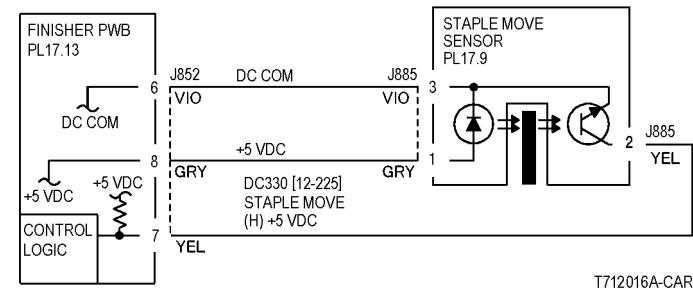
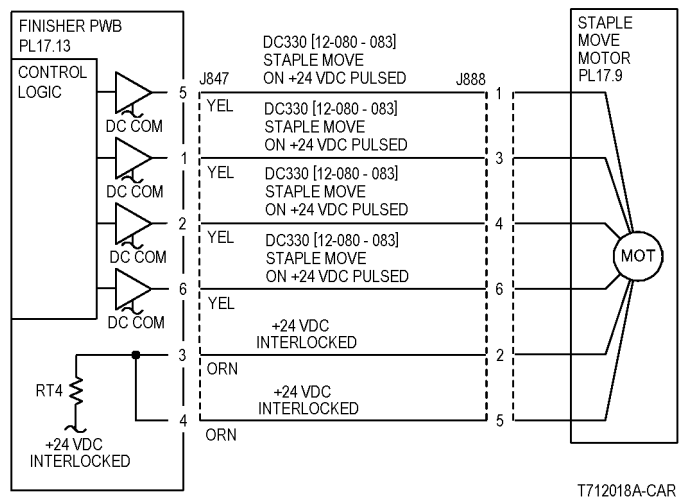

Figure 2 12-242 RAP Circuit Diagram - Staple Move Sensor
Figure 3 12-242 RAP Circuit Diagram - Staple Move Motor
- Ensure that the connectors shown in the circuit diagrams (Figure 2, Figure 3) are securely connected and that the wires are not damaged.